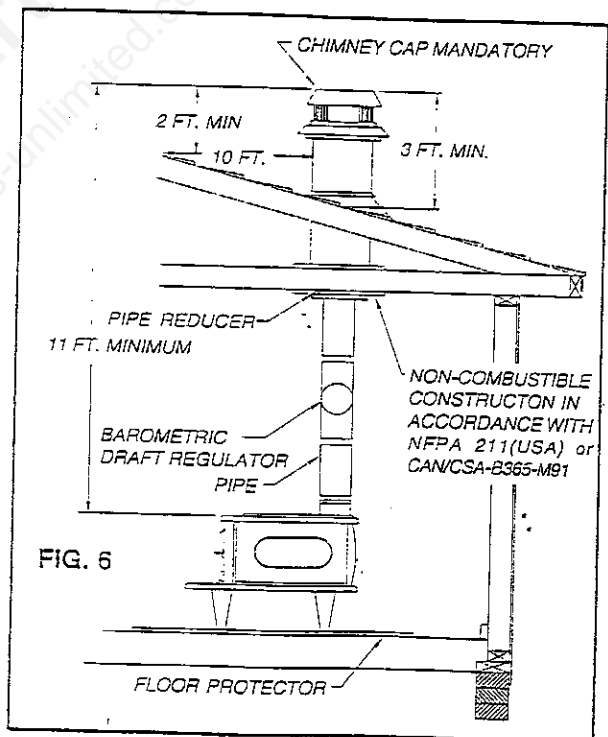

FIG. 6
Carefully follow chimney manufacturer's instructions. Use only listed type HT per UL 103, or ULC S629, 6-in diameter black or blued chimney connector, minimum 24 gauge steel. If your chimney starts at the ceiling (Fig. 7), you will need enough 6" pipe to reach the ceiling. The top of the chimney must be at least 3 feet above the roof and be at least 2 feet higher than any point of the roof within 10 feet. (Fig 6)
- 5. If the fire burns well but sometimes smokes or burns slowly, it may be caused by the chimney top being lower than another part of the house or a nearby tree. The wind blowing over a house or tree, falls on top of the chimney like water over a dam, beating down the smoke. The top of the chimney should be at least 3 feet above the roof and be at least 2 feet higher than any point of the roof within 10 feet (Fig. 6).*